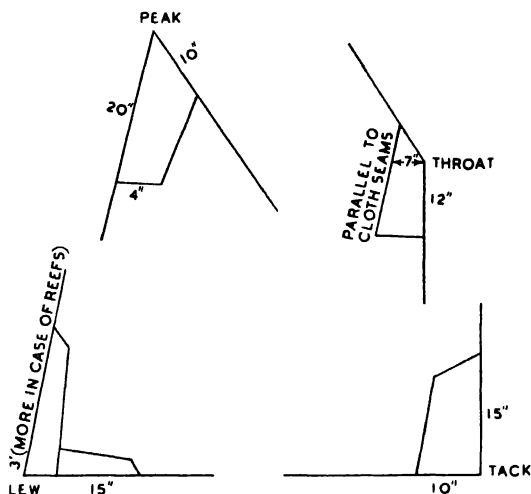

FIG. 25. Patches of the gaff mainsail. The measurements shown are for an average gaff mainsail of 150 sq. ft.
*Operation 4* Patches and Tablings. Refer to instructions for carrying out these operations on the Bermudian mainsail on pages 71-72. The patches for each corner are shaped as in Fig. 25, though of course the shapes may vary to individual taste. (The measurements apply to small sails of about 150 sq. ft. and should be scaled up for larger sails.) Apart from the shape, the patches are fitted exactly as for the Bermudian mainsails.